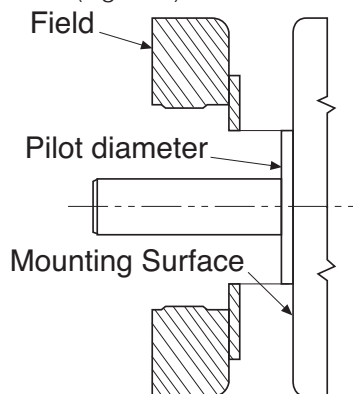

Figure 2
- b. An appropriate pilot diameter must be provided on the mounting surface as well. (Figure 2)